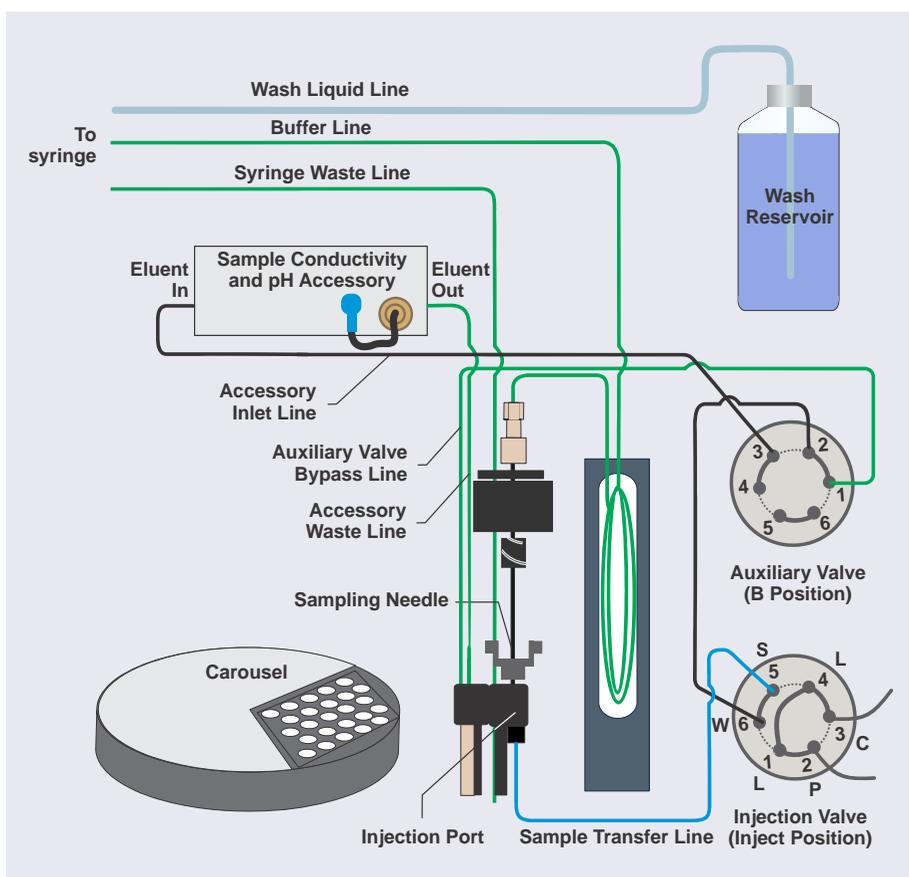

Figure 14. Dionex AS-AP Plumbing Schematic for Push Mode with a Sample Conductivity and pH Accessory
1. Remove the injection valve waste line from the Dionex AS-AP waste port and connect the line to port 2 on the auxiliary valve (see Figure 14).